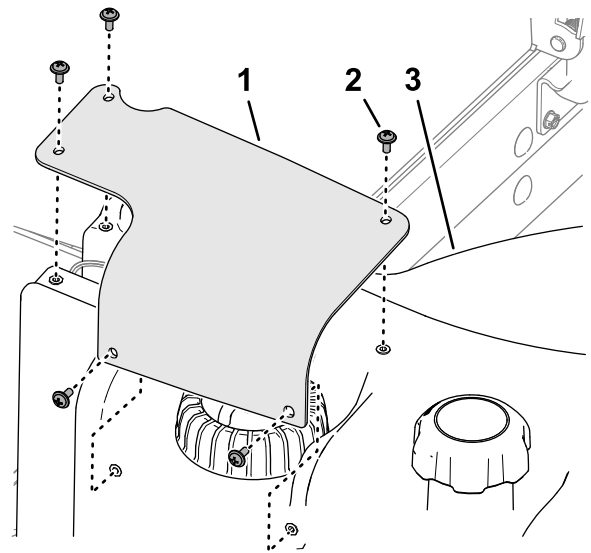

Figure 90
7. Align the holes in the fuel-sender cover with the holes in the fuel tank, and secure the cover to the tank with the 5 Phillips-head screws (**Figure 90**).